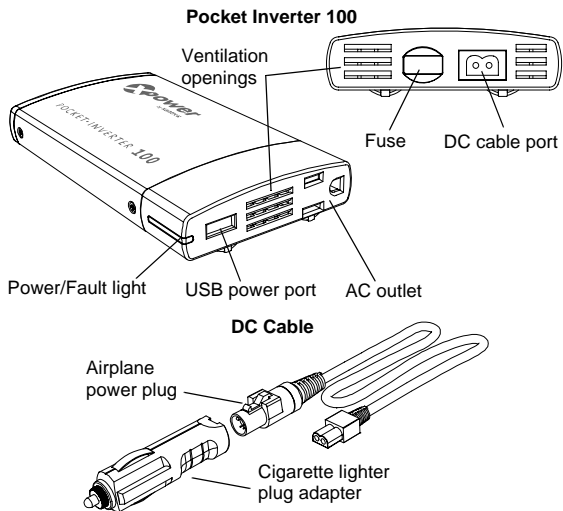

Figure 1
2. Plug the DC cable into the DC cable port on the XPower inverter. See Figure 1.
1. Plug the DC cable into the DC cable port on the XPower inverter. See Figure 1.